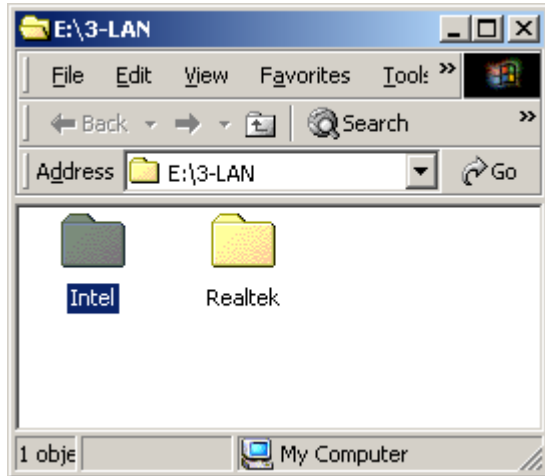

Figure 7-16: Select the Driver Folder
Step 2: A new window opens (Figure 7-16).